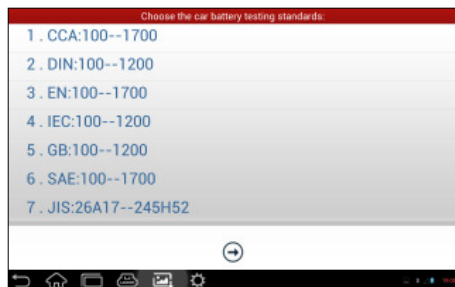

Fig. 7-5
5. Follow the on-screen instructions to turn off the headlamp and tap [OK], the system will continue the testing. Tap →, it will enter testing standard selection screen. See Fig. 7-5.